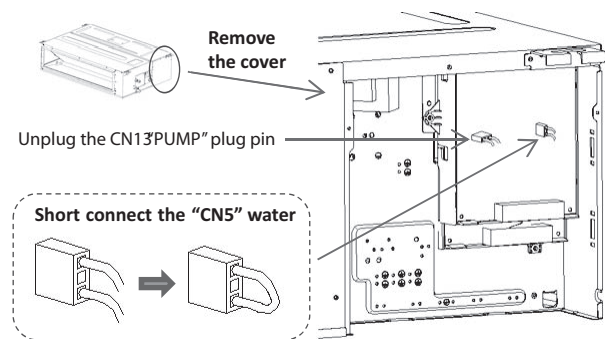

Fig. 44 —Disable condensate lift pump
- Open the Control Box assembly cover, unplug the "CN13 PUMP" pin to disable the pump function, and short-connect the "CN5 WATER" plug to disable the water level sensor by either splicing the wires coming out of the CN5 WATER plug or by using a jumper plug Replacement Component part number 17401204000333 (optional in some units otherwise sold separately) (see Figures 44 and 45).